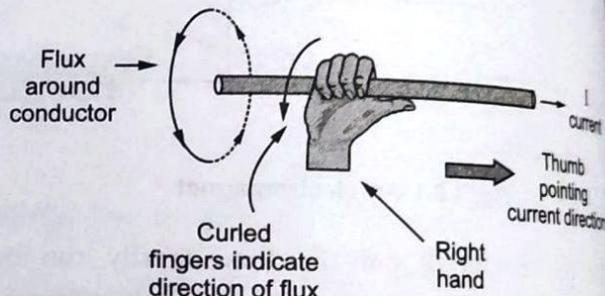

Fig. 1.8.4 Right hand thumb rule
- The Fig. 1.8.4 explains the rule.